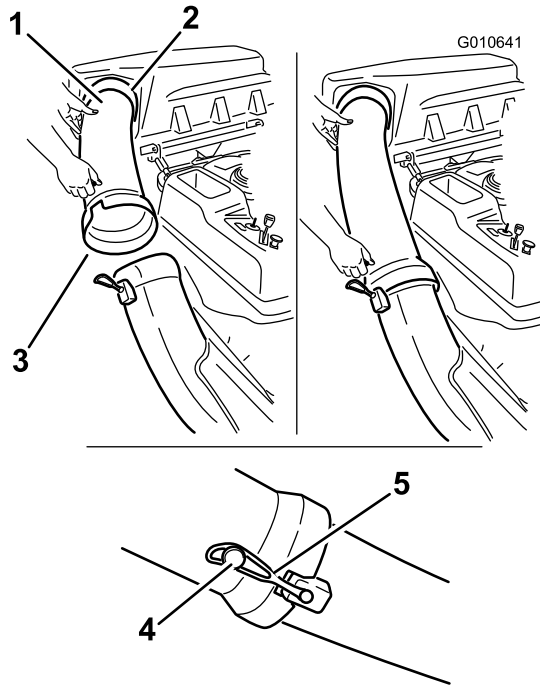

Figure 27
1. Slide the curved end of the discharge tube into the opening in the bagger top (Figure 27).
2. Slide the flared end of the discharge tube over the end of the chute. Move the rubber retaining strap on the chute snaps over the peg on the discharge tube to secure it (Figure 27).